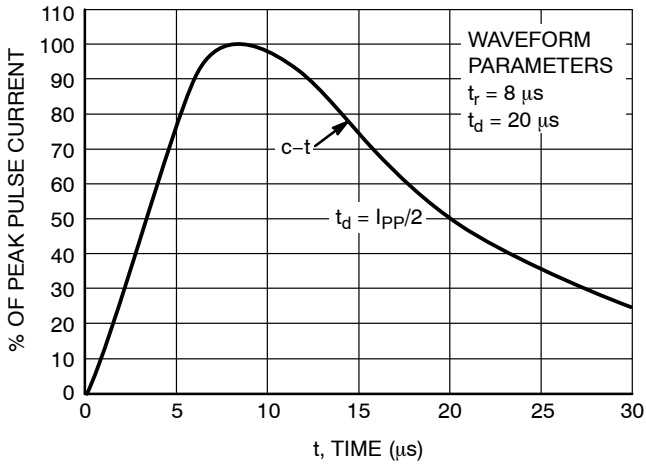

Figure 1. Pulse Waveform,  $8 \times 20 \mu\text{s}$
1. Non-repetitive current pulse per Figure 1.
4. Pulse waveform per Figure 1.